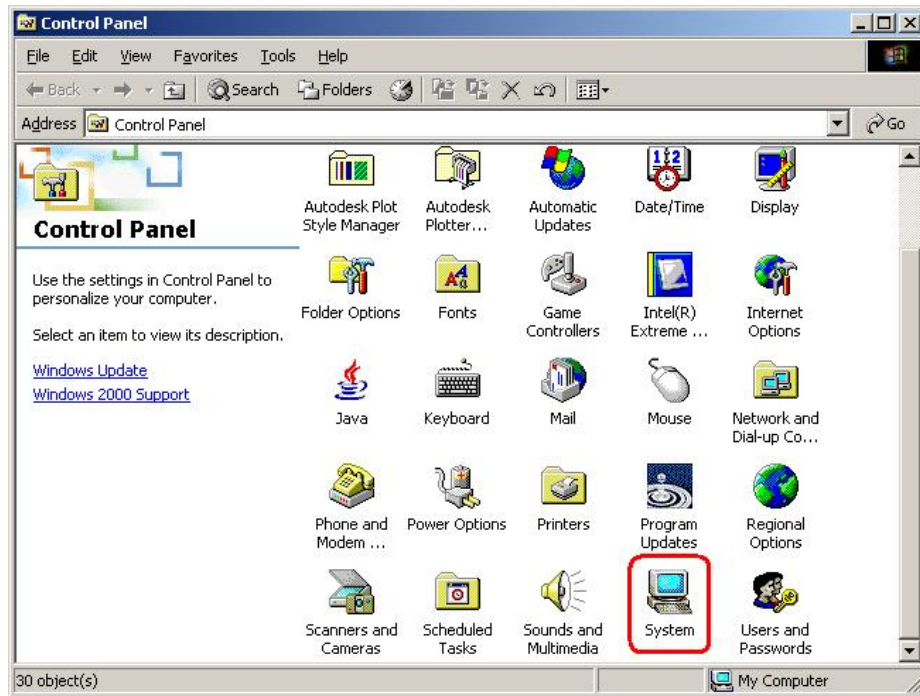

Figure 7-26: Double Click the System Icon
Step 13: Double click the **System** icon (Figure 7-26).